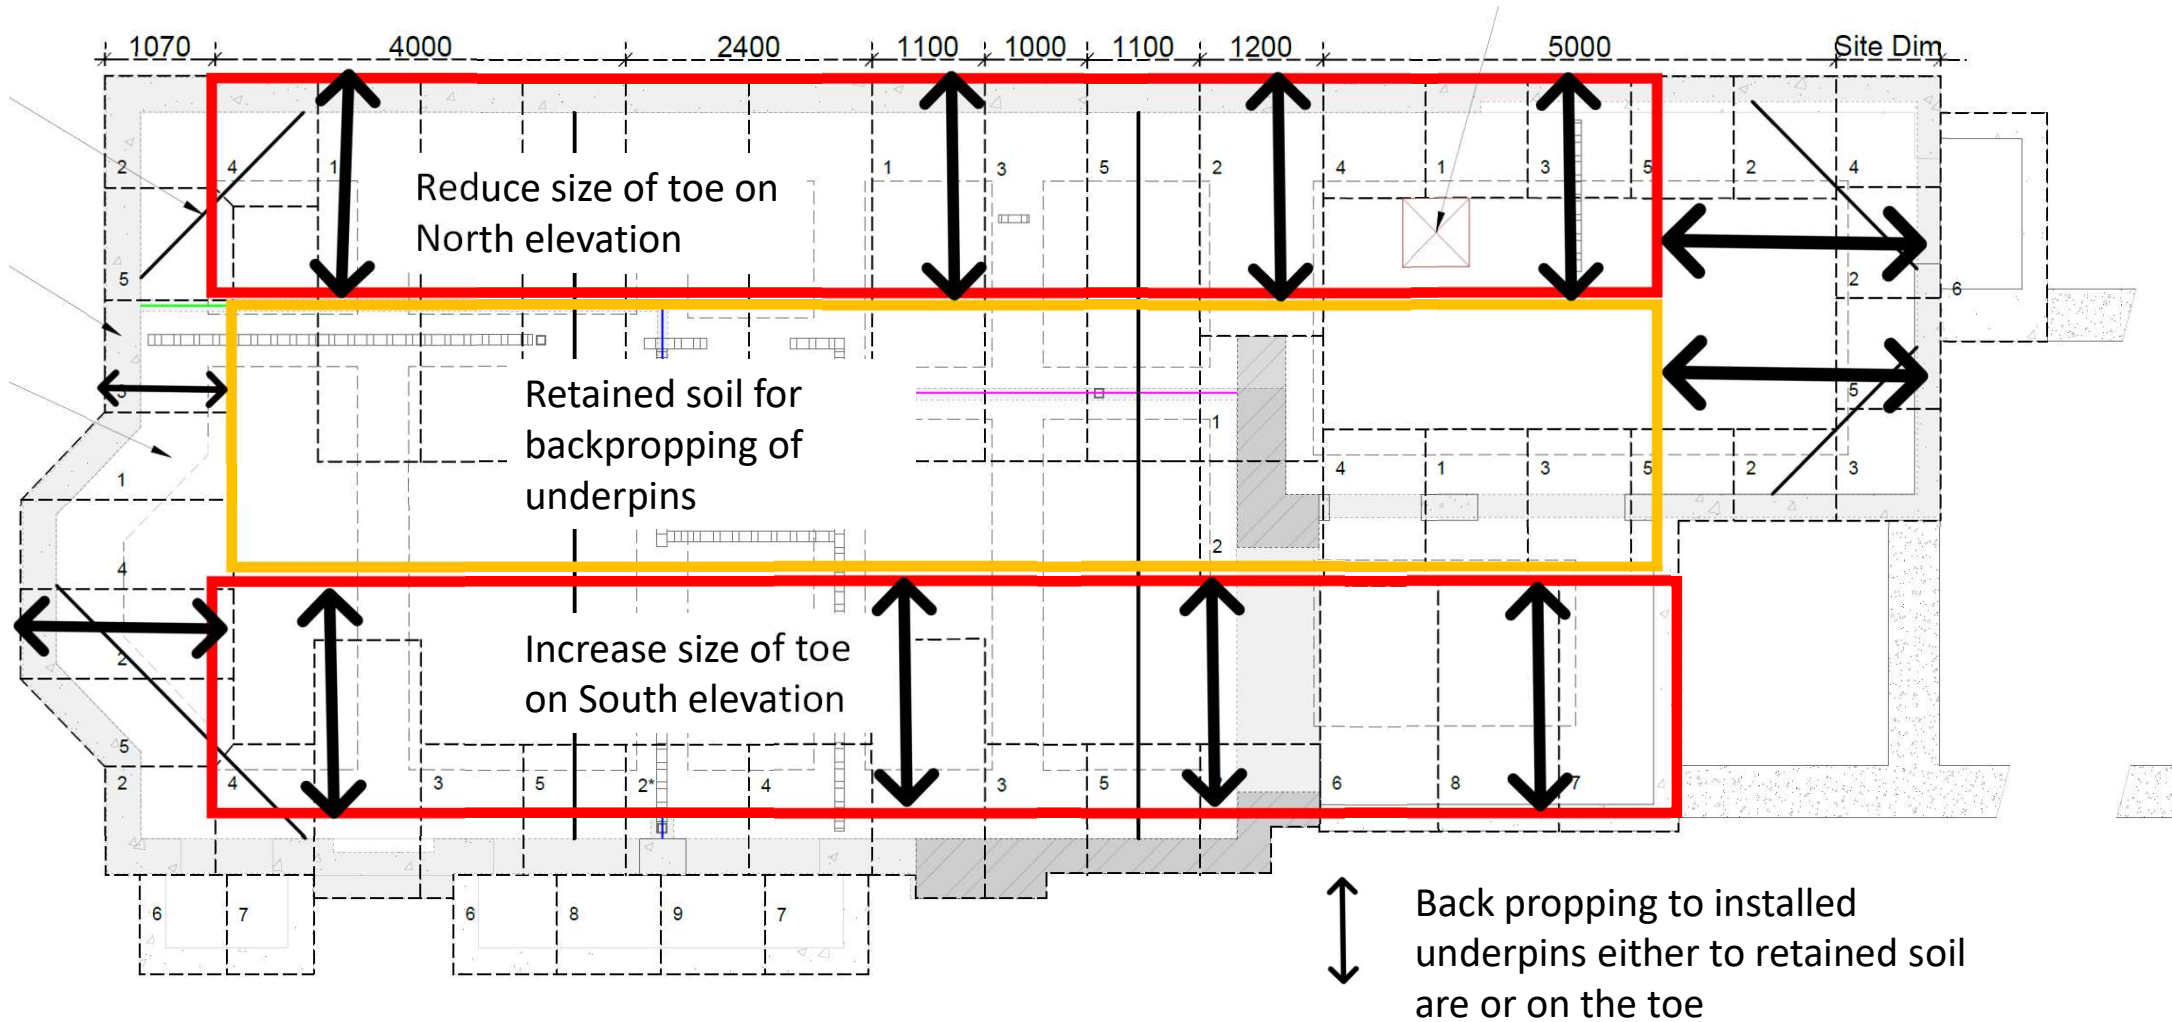

Fig 3 Reduced dig and slab sequence
- Reduce level dig to remainder of soil down to formation level will be in 3mtr long sections (see fig 3) a sacrificial prop will be installed between the north and south toes for stability,